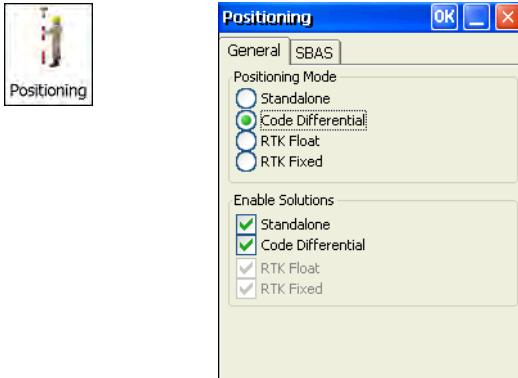

Figure 3-26. Rover Configuration
14. For RTK surveys, click the **Ports** icon and set the following port parameters for the serial port, then click **OK** (Figure 3-26 on page 3-29).